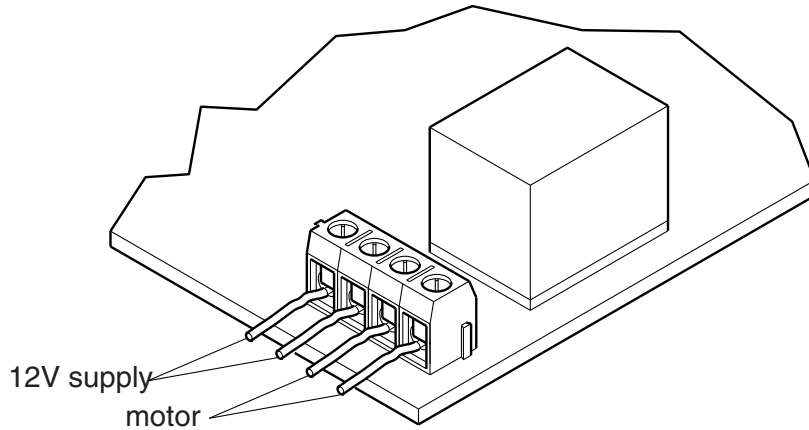

Fig. 13
- (d) Connections from the relay output to the motor will be through a terminal block as shown in Fig. 13.